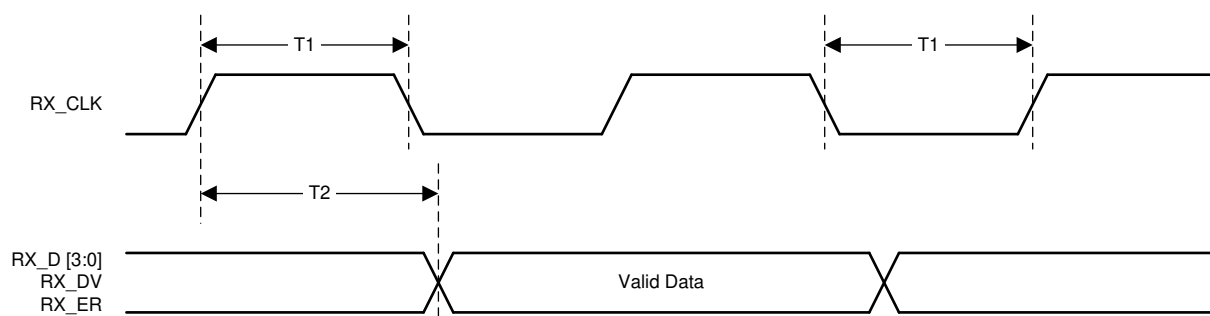

Figure 7-8. 10-Mbps Receive Timing
(1) Ensured by production test, characterization or design.
(2) See Figure 7-8.